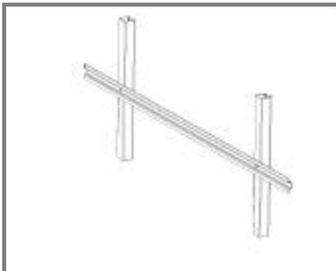

Figure 1
5. At least two vertical supports are required and each end of the rail can overhang by no more than 20", **Figure 1**.